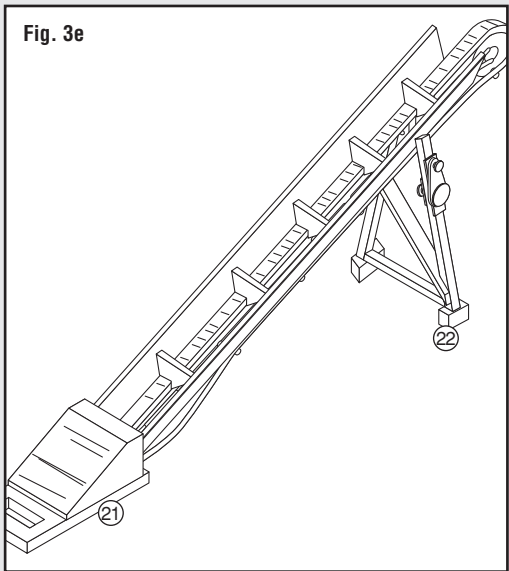

Fig. 3e
- Glue Conveyor Support (22) to Conveyor (21) (Fig. 3e).